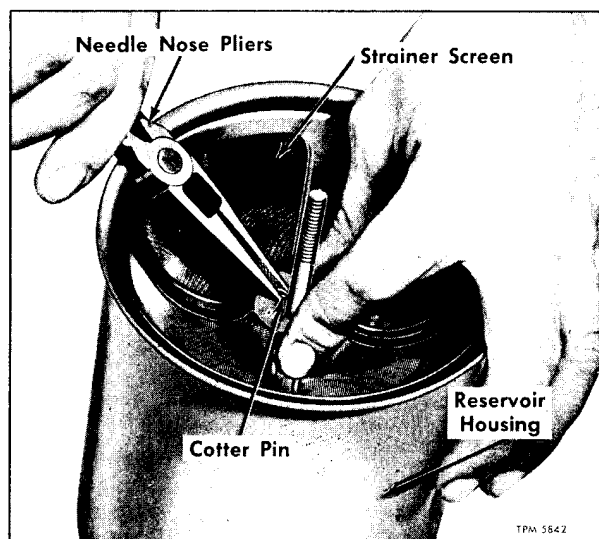

Figure 26—Method of Replacing Fluid Reservoir Screen and Cotter Pin
1. Remove nut (1) with gaskets (2 and 17), then lift cover (3) from reservoir housing (8). If necessary, remove cover O-ring seal (4) from cover.
2. Using thin-nose pliers as shown in figure 26, remove small cotter pin (16) which retains strainer screen (5) in housing. CAUTION: Do not poke hole in screen with pliers when cotter pin releases from thru bolt. Lift screen from housing.
3. Remove spring (7), by-pass filter assembly (9) and filter element (11) from reservoir housing.